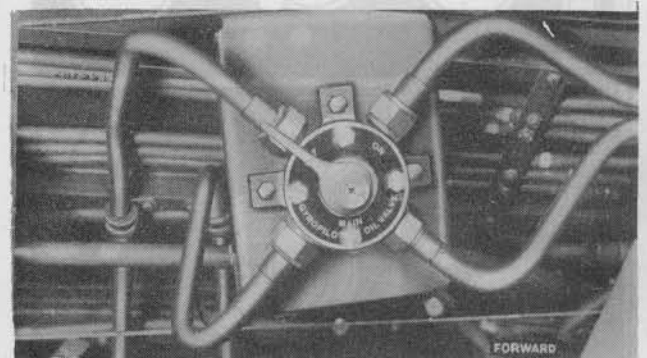

Figure 2—Four-Way Oil Valve
(4) AUTOMATIC PILOT CONTROLS. (See figures 2 and 3.)—The Sperry Mark 3 automatic pilot is in the center cut-out of the main instrument panel. The main four way oil valve for the system is on the port side of the hull, just forward of the pilot's seat. The servo speed control valves are at the bottom of the automatic pilot panel. The "ON-OFF" control handle is over the bulkhead door just aft of the pilot's seat. The rudder control transfer valve is located on the port side, below the pilot's instrument panel.